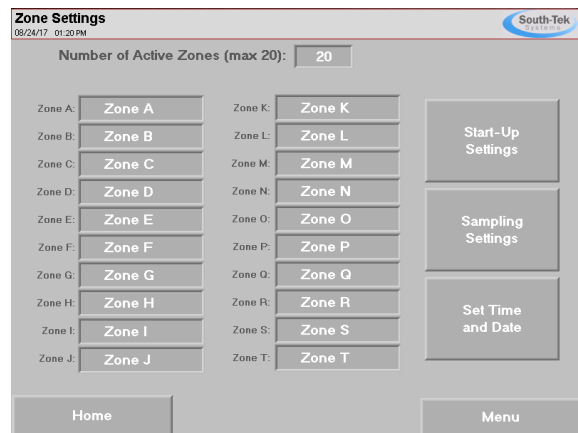

Figure 19: Zone Setup Screen
6. Set date/time to current date/time in the area by navigating to "Date and Time Screen" seen in **Figure 21**. To open this screen press "Zone Setup" button in the menu, then press the "Set Time and Date" button seen in **Figure 19**.